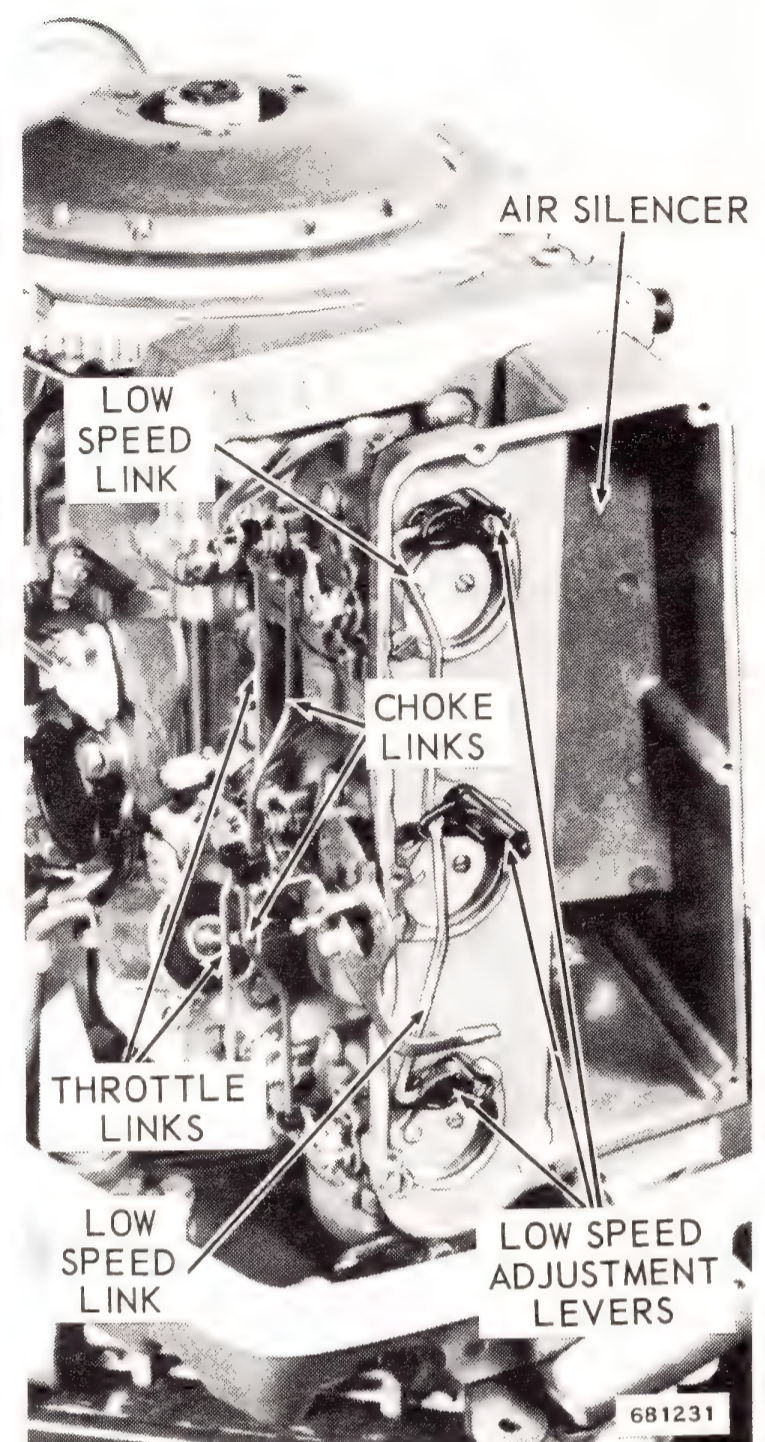

Figure 3-5. Carburetor Linkages
- d. Disconnect choke, throttle, and slow speed needle valve linkages by pulling out of top and bottom carburetor lever retainers. See Figure 3-5.